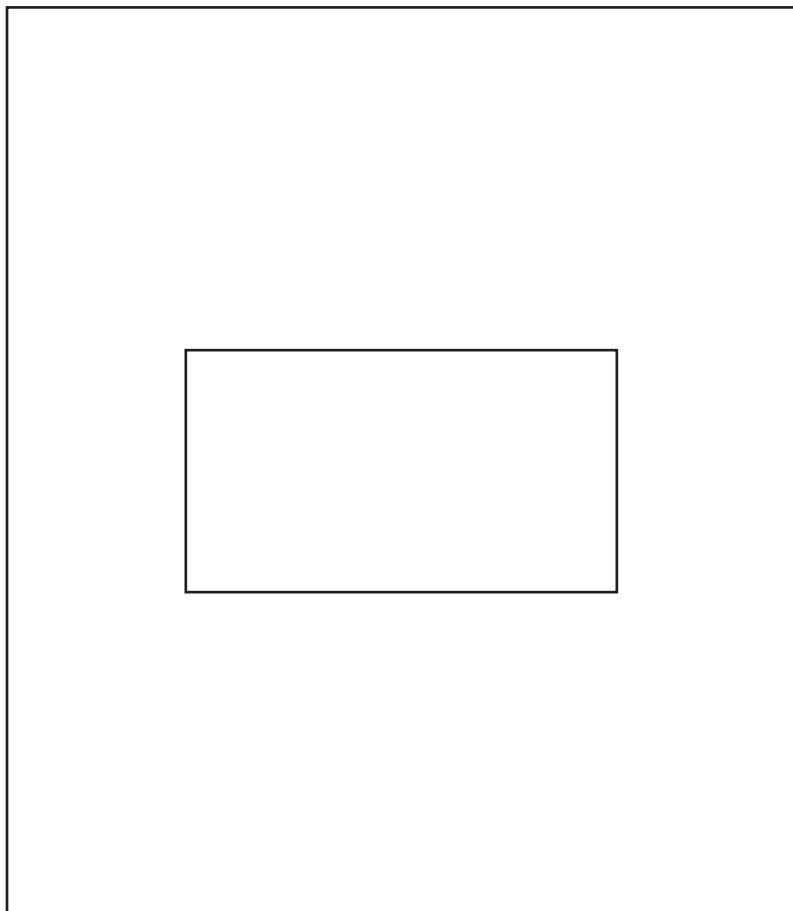

Fig. 1.1
- (a) Place the transparent block on **Fig. 1.2** on the opposite page and mark its outline. The block should be as indicated in **Fig. 1.1**. Remove the block and draw a normal near the middle of one of the long sides of the block.